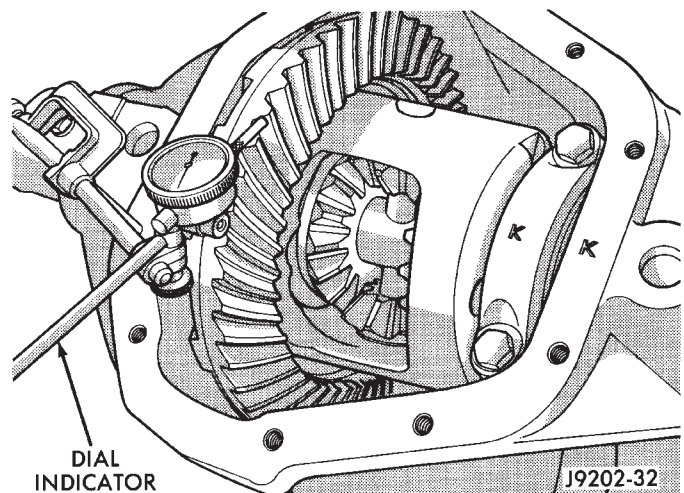

Fig. 80 Ring Gear Backlash Measurement
(25) This is the thickness shim required on the ring gear side of the differential case to achieve proper backlash.
(26) Subtract the backlash shim thickness from the total preload shim thickness. The remainder is the shim thickness required on the pinion side of the axle housing.
(27) Rotate dial indicator out of the way on guide stud.
(28) Remove differential case and dummy bearings from axle housing.
(29) Install side bearing shims on differential case hubs.
(30) Install side bearings and cups on differential case.
(31) Install spreader W-129-B on axle housing and spread axle opening enough to receive differential case.
(32) Install differential case in axle housing.
(33) Remove spreader from axle housing.
(34) Rotate the differential case several times to seat the side bearings.
(35) Position the indicator plunger against a ring gear tooth (Fig. 80).
(36) Push and hold ring gear upward while not allowing the pinion gear to rotate.
(37) Zero dial indicator face to pointer.
(38) Push and hold ring gear downward while not allowing the pinion gear to rotate. Dial indicator reading should be between 0.12 mm (0.005 in.) and 0.20 mm (0.008 in.). If backlash is not within specifications transfer the necessary amount of shim thickness from one side of the axle housing to the other (Fig. 80).